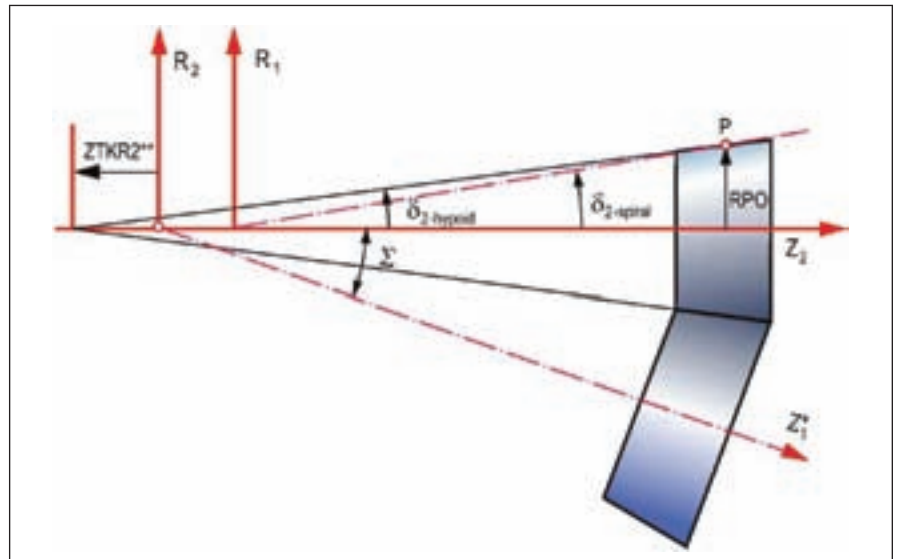

Figure 4—Gear hypoid pitch angle.
3. The changed pitch angle of the gear for a hypoid pair shifts the location of the pitch apex (while the pitch point P at the center of the face width remains unchanged) as shown in Figure 4. The value of ZTKR2** is negative, because the gear cone apex is now shifted in negative z_2 direction and lies left of the R_2 axis.